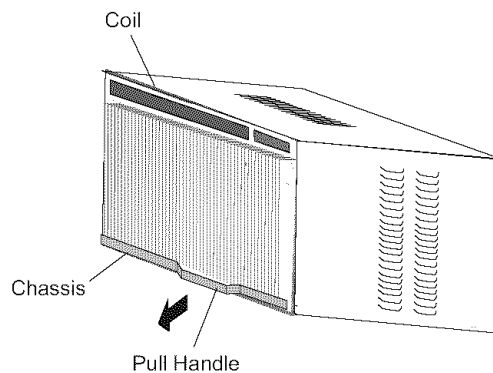

Fig. 7 – Air Conditioner Removal
- Grasp the pull handle at the front of the slide-out chassis and carefully slide the air conditioner out of the cabinet (see Fig. 7).